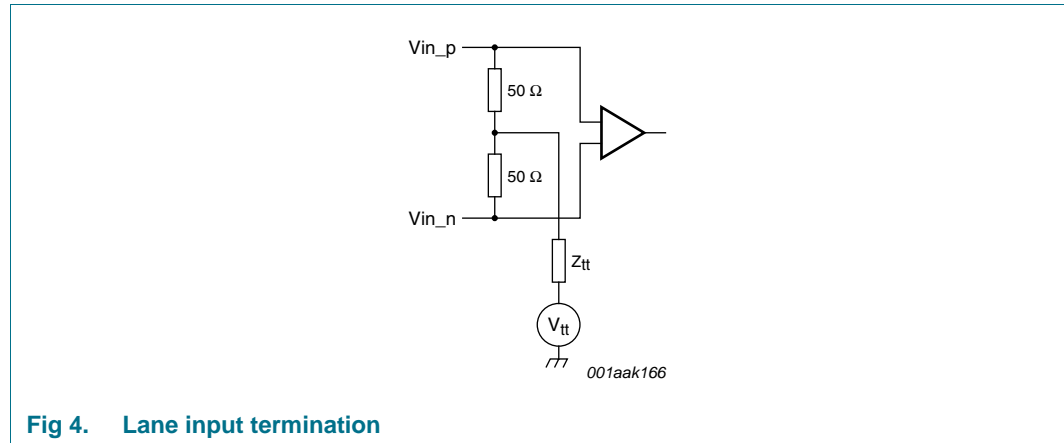

Fig 4. Lane input termination
- [5] Vin\_p and Vin\_n inputs are differential CML inputs. They are terminated internally to  $V_{tt}$  via 50  $\Omega$  (see Figure 4).